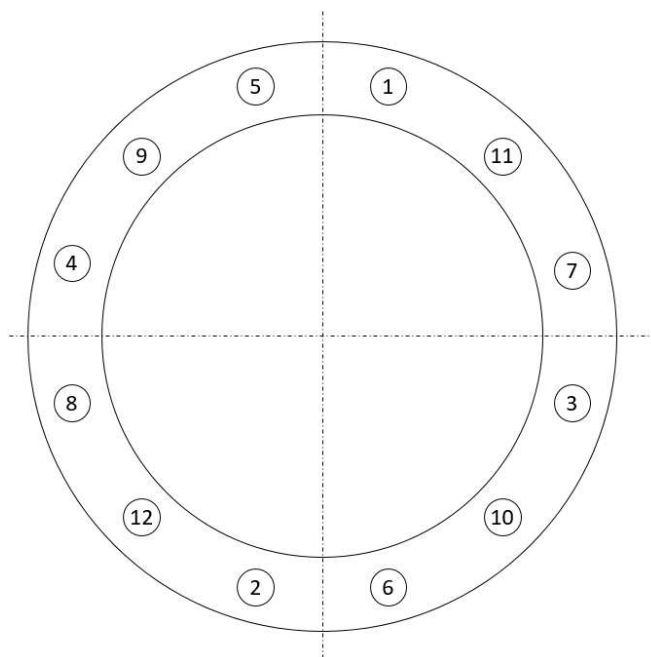

Fig. 1, Tightening sequence flange bolts – a similar criss-cross pattern should be followed for the other numbers of bolts
- Tighten the bolts in increments keeping the flanges parallel during the process and following a diagonal sequence as sketched on fig. 1